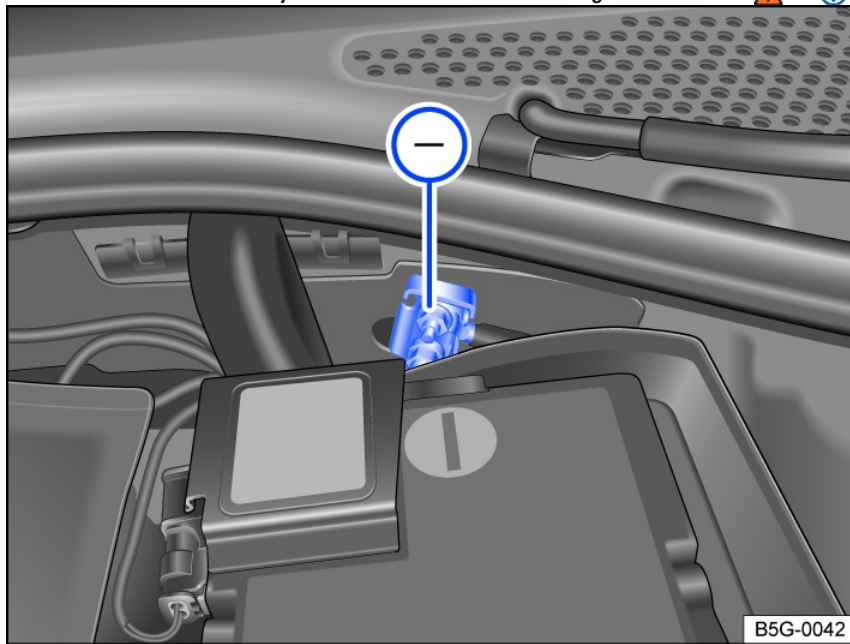

Fig. 186 In the engine compartment: jump-start point (negative connection).
□ The jump-start point (negative terminal) is for connecting the *black* jumper cable *fig. 186*.